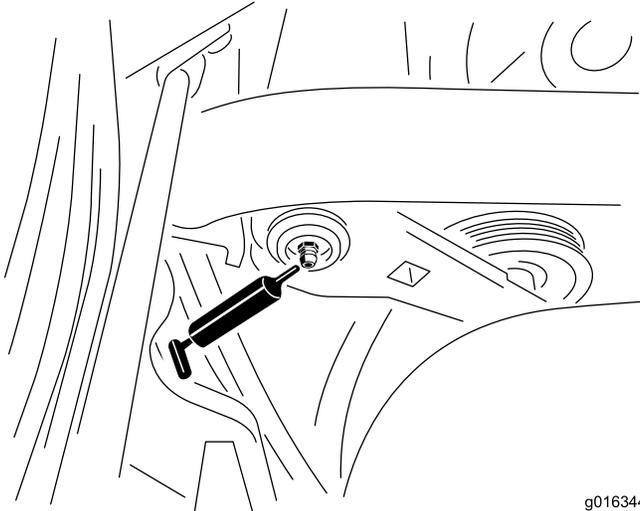

Figure 43
1. Wipe the grease fitting clean so foreign matter cannot be forced into the bearing or bushing (Figure 43).